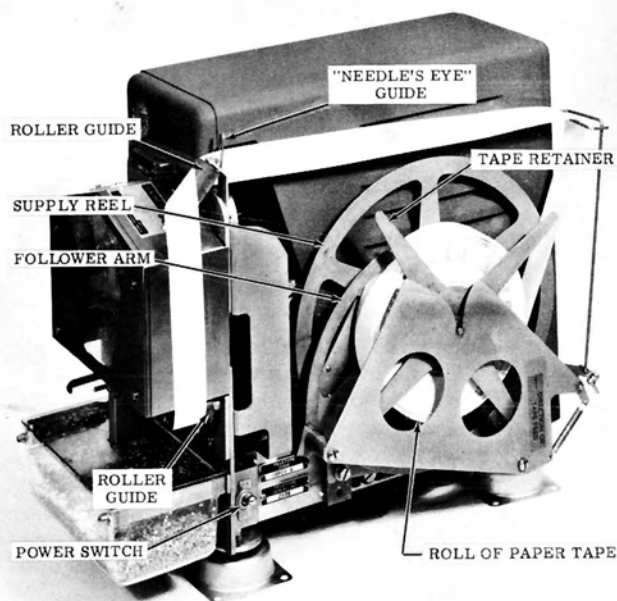

Figure XI-16. Side View of Punch Mechanism
- a. Lift the supply reel (Figure XI-16) out of its holder.
- f. Place the follower arm (Figure XI-16) against the paper on the reel. (At the base of this arm is an 'out of paper' switch which causes the N register to go 'not ready' when the roll of paper is exhausted.)